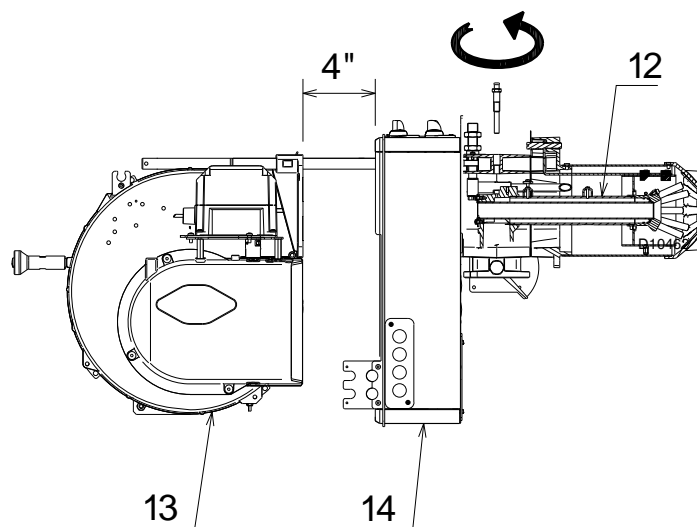

Fig. 36
- remove screw 1) and pull the burner back on slide bars 3) by about 4" (Fig. 36);
- push ahead the connection to the end stop on the plug 10)(Fig. 37), therefore extract the inner part of the combustion head 12)(Fig. 36).
- push the burner 13)(Fig. 36) at approximately 4" from the electrical board 14);